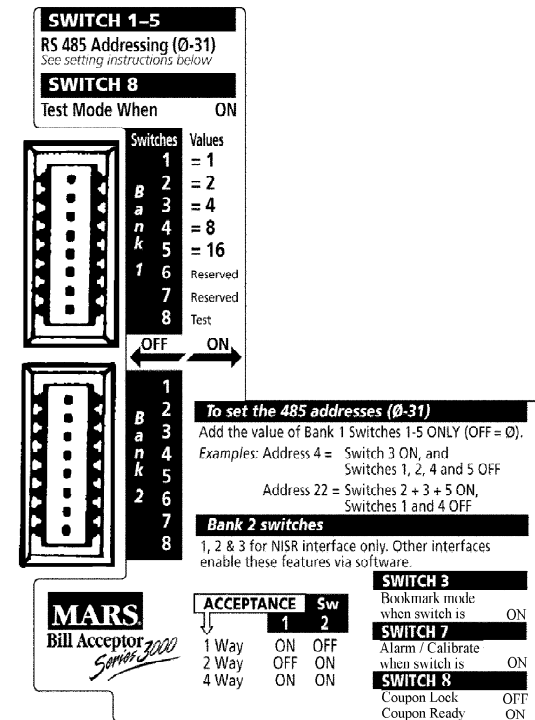

Figure 3. Setting The Option Switches
- Option switches are shown on the side of the unit (See Figure 3).